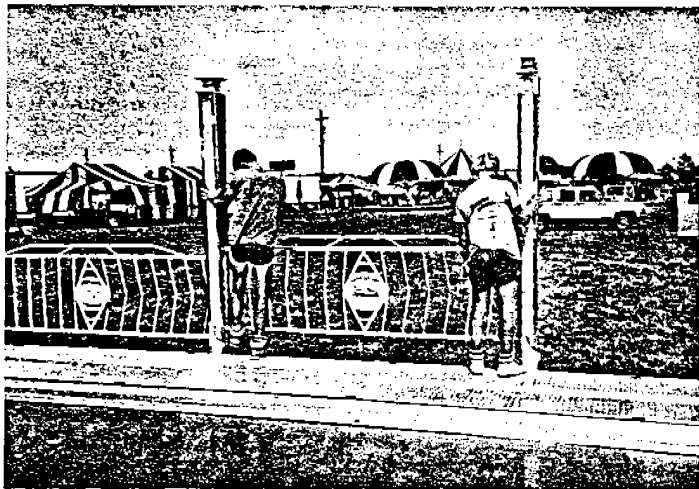

FIGURE 9
2. **INSTALLING FENCE:** Install all fence and gates. (See Figure 9). **NOTE:** The exit position of gate, ramp and railings may be reversed from left side of control house to right side of gooseneck or vice-versa depending on ride set-up exit preference.